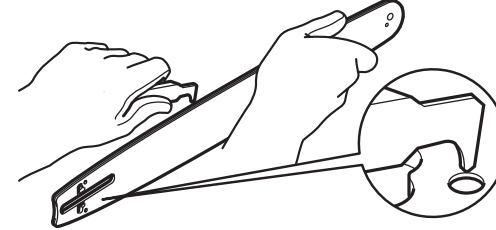

Fig. 39
3. Check the drive sprocket (28). If it is worn or damaged due to strain, have it replaced by an authorised service agent.
4. Clear residue from the rails on the guide bar (13) by using a screwdriver, putty knife, wire brush or other similar tool. This will keep the oil passages open to provide proper lubrication to the bar (13) and chain (14) (Fig. 39).